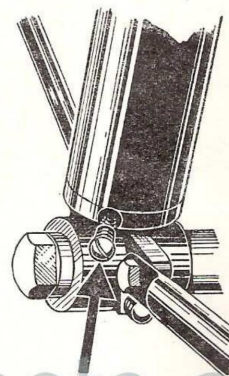

Fig. 20. Front fork drain plug.
2. Unscrew the drain plug (Fig. 20) at the bottom of each fork tube.